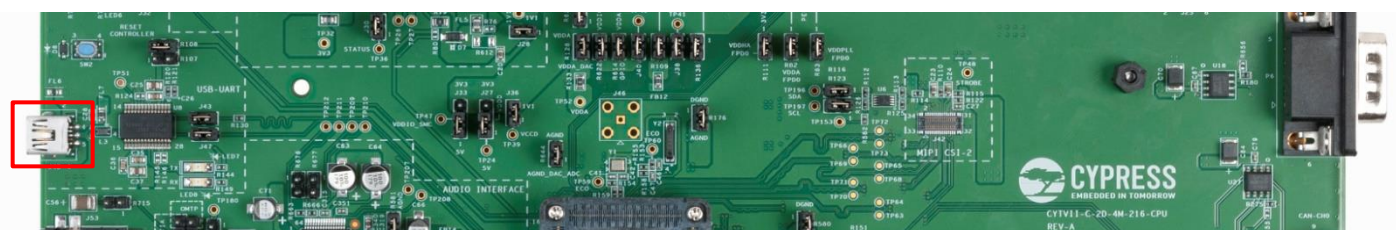

Figure 5: USB Connector J48 on CPU Board under Test
3. Connect the Type-B Mini USB cable at J48, on the CPU board under test (DUT). Connect the other end of the cable to a PC. Refer to Figure 5
2. Connect the Type-B Mini USB cable at J48 (Refer to Figure 5), on the CPU board under test (DUT).